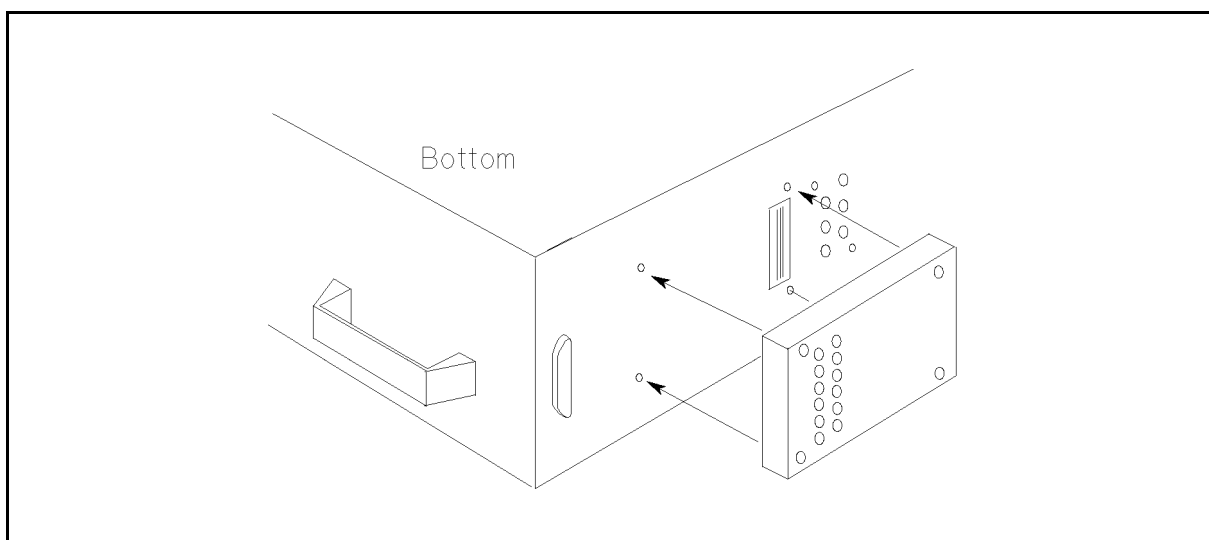

Figure 3-5. Installing a Port Expander
2. Attach the port expander on the SWM as shown in Figure 3-5.